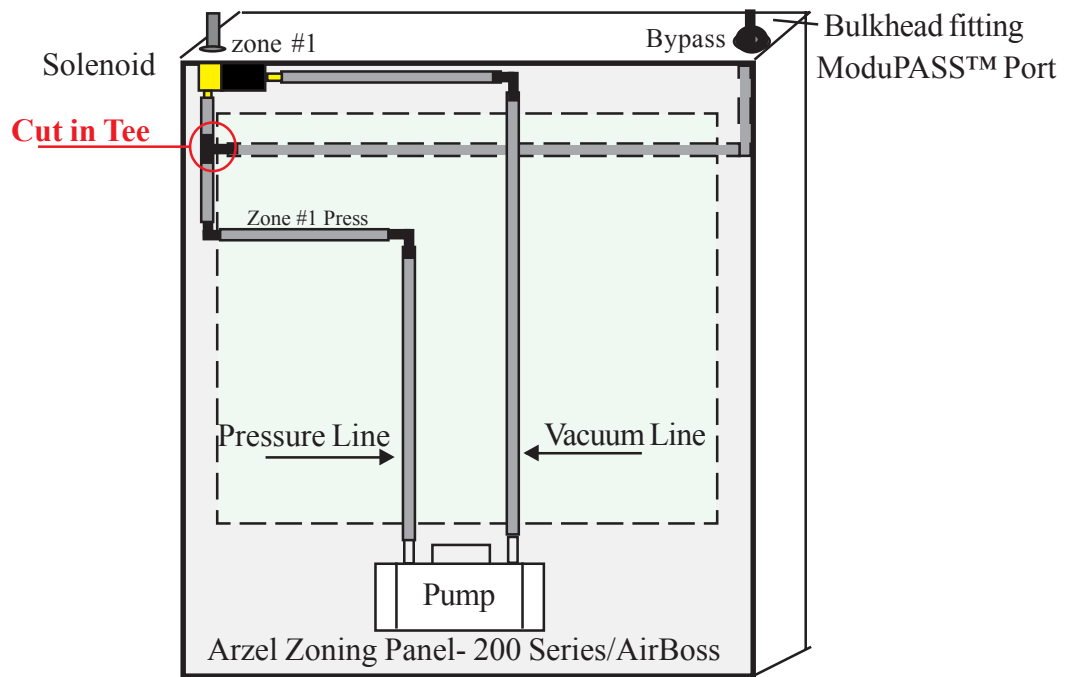

Fig. 2
See Fig. 2 reverse)
- 7 Connect the ModuPass port to the Restrictor (black) on the Pressure Transmitter tee. (See Fig. 2 reverse)
- 9 Connect the damper tubing to the Pressure Transmitter Tee, opposite of the restrictor (remove red cap). (Fig.2)